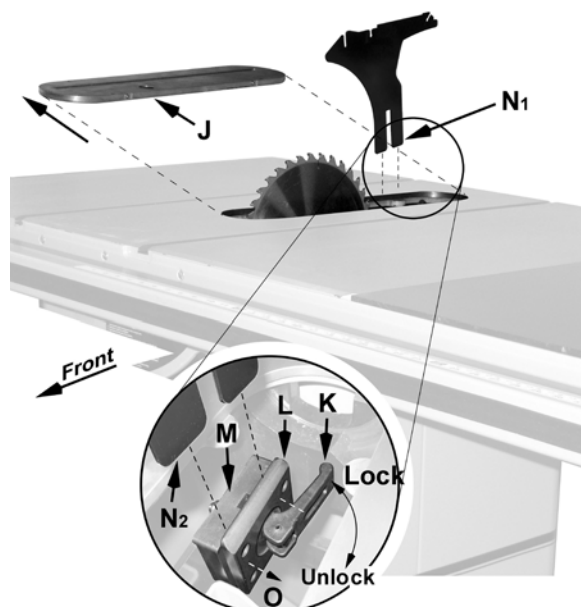

Figure 10
3. Press the *arbor lock* (D) in the direction shown by the arrow to engage it into the slot in the *arbor* (C). At the same time remove the arbor nut (loosen with a 27mm wrench if necessary).
4. Remove the *collar* (B).
5. Install the blade, making sure the cutting teeth at the top of the blade point toward the front of the saw. If unsure, refer to Figure 10 for the proper blade orientation.
6. Replace the collar (B) and arbor nut (A).
7. Engage the arbor lock (D) and tighten the nut (A) with a 27mm wrench.
Referring to Figure 10:
2. Remove the table insert (J).
3. Located inside the table and accessible through the insert opening (Figure 10 inset), place the quick-release clamp lock handle (K) in the *unlock* position.
4. The *floating clamp block* (L) is spring loaded and will move away (O) from the *fixed block* (M), leaving a gap.
5. Insert the bottom of the *riving knife* (N₁, N₂) all the way into the gap between the *clamp blocks* (L, M), then lock the handle (K).
6. Replace the *insert* (J) back on the table. The saw blade and riving knife should protrude through the slot in the insert.
The clamping blocks (L, M, Fig. 10) are adjusted at the factory and no further adjustment of the blade guard and riving knife assembly should be necessary. However, **proper alignment is very important**. Before operating the table saw, read the *Riving Knife Adjustment* section (page 18) to verify and follow the adjustment procedure if necessary.